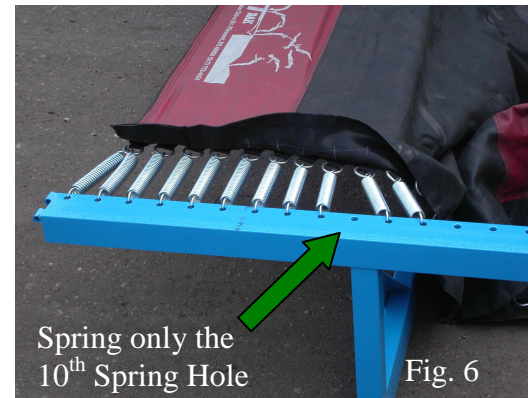

Fig. 6
- C. The third spring will attach to the second D-ring and hook to the third frame hole (See Fig. 6-next page). **ALWAYS ATTACH HOOKS DOWNWARDS!!!**
- E. As you continue springing the bed, skip the **tenth** frame hole to angle the springs, pulling the bed tight and smooth (See Fig. 6 & 7-next page). **DO NOT** skip every 10 holes (20th, 30th, 40th, etc) - **only the 10th hole**. As you continue springing the bed, if you notice that the springs are no longer angled or that wrinkles are starting to form on the bed, then skip another set of frame holes. When the bed is attached properly, it should be smooth and tight. **WARNING:** Tumbl Trak™ cannot be held responsible for beds that are not strung up according to these instructions.